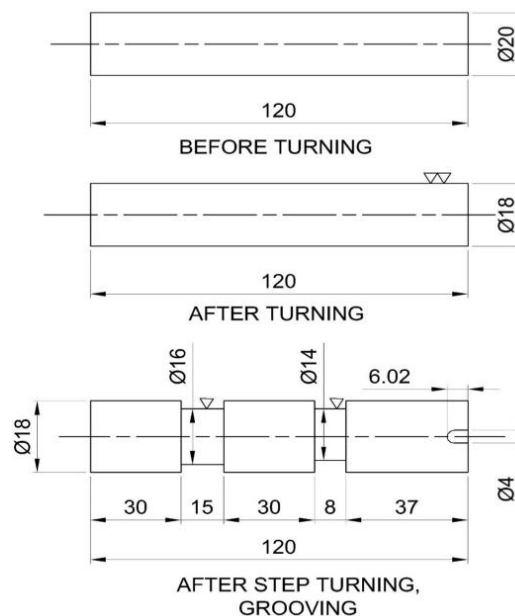

Figure 5.1. Step turning with grooving operation
5.1 Preparation of Mild Steel (MS) material for step turning with grooving operation as shown in the Figure 5.1